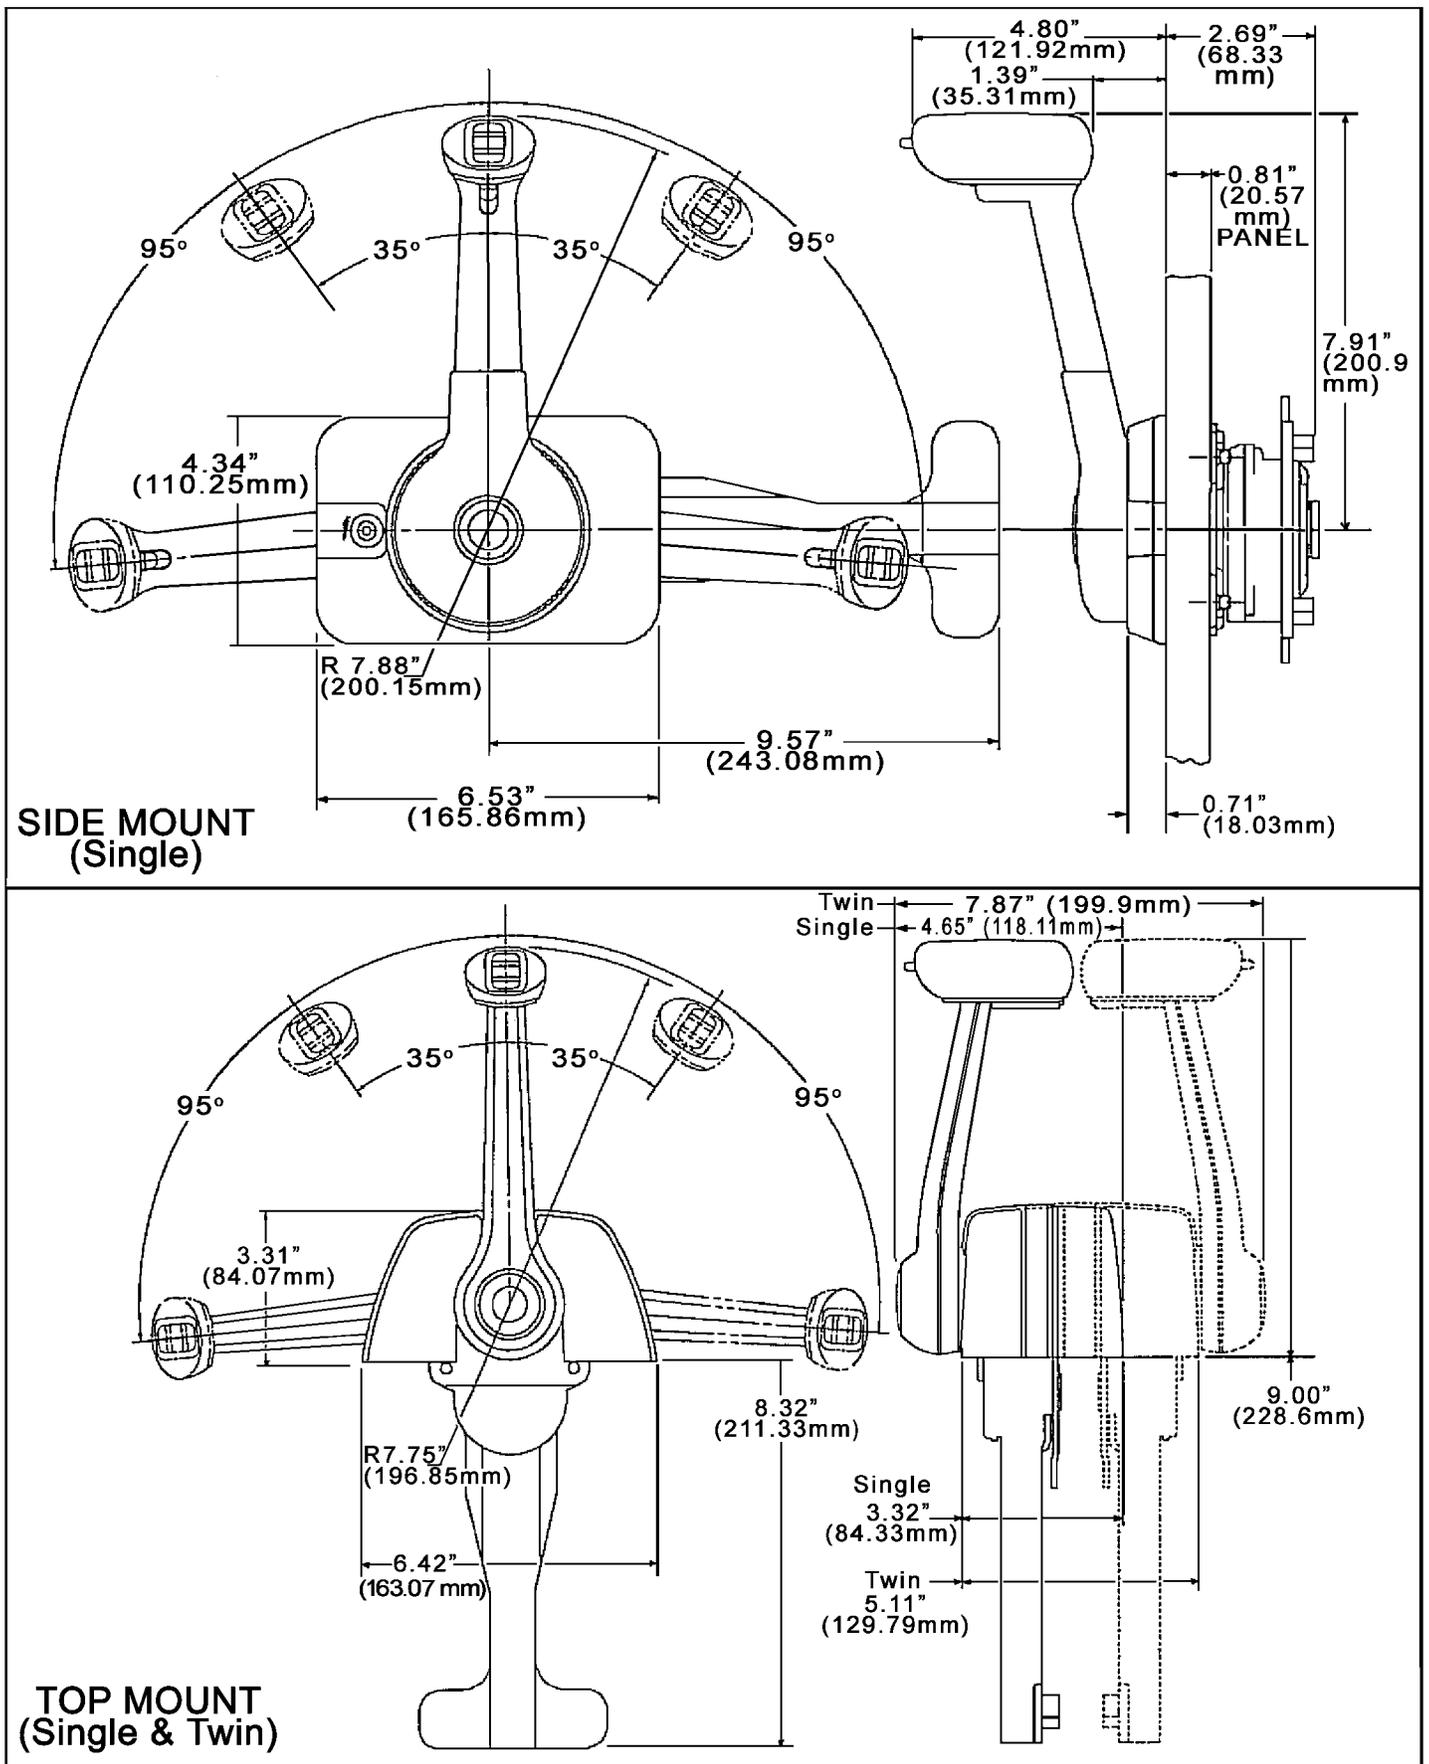

FIGURE 2 - CONTROL MEASUREMENTS
- 1.1 Allow adequate clearance for Hand Lever swing (forward and reverse positions). See Figure 2 for Control dimensions.
- 1.2 Allow adequate clearance under the console for the Cables. Refer to Figure 2.